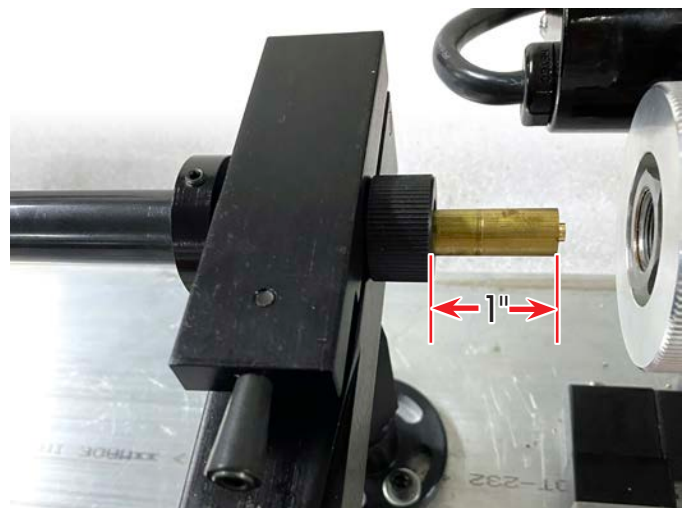

FIGURE 55
4. Push the bar stock all the way in until about 1" (25mm) is sticking out in front of the nose cap (see Figure 55).